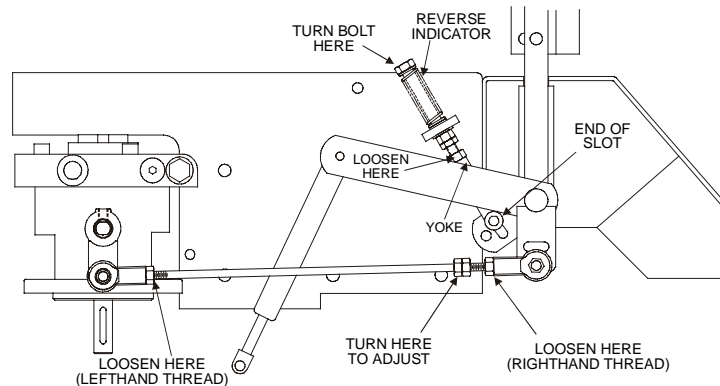

FIG. 10
- Begin with either the left or right motion control lever. Move lever to the neutral position and pull lever back until the clevis pin (on arm below pivot shaft) contacts the end of the slot (just beginning to put pressure on spring), See Fig 10.
- Loosen lock nuts from the ball joints on the two rods which connect the motion control assemblies to the pump control arms (See Fig 10).
Adjust pump control rod length by rotating the double nuts on the rod in the appropriate direction until the wheels slightly creep in reverse. (See Fig 10). Move the motion control lever to the reverse position and while applying slight pressure to the lever, allow the reverse indicator spring to bring the levers back to neutral.